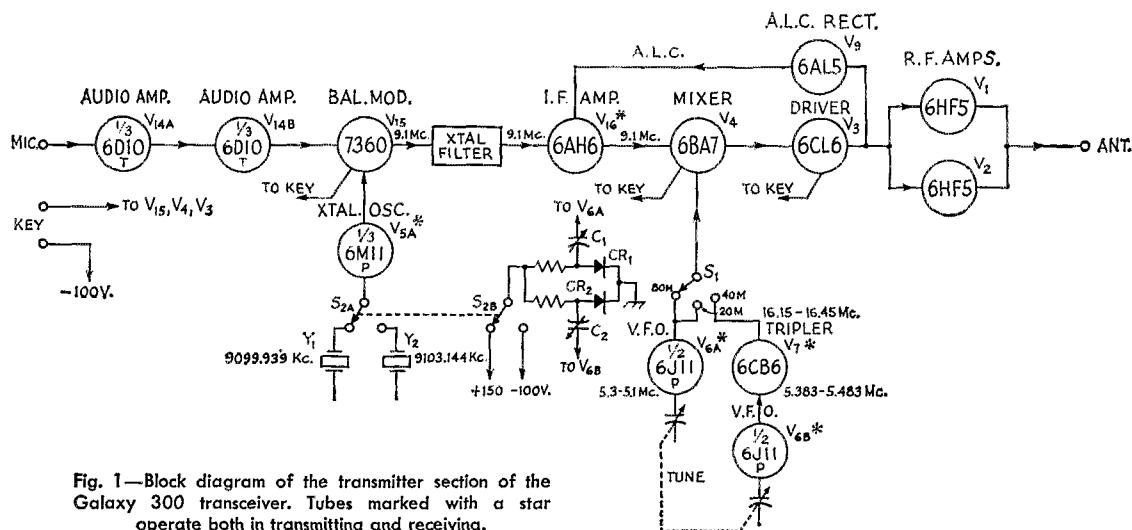

Fig. 1—Block diagram of the transmitter section of the Galaxy 300 transceiver. Tubes marked with a star operate both in transmitting and receiving.
For simplicity of explanation, the block diagrams of the transceiver shown in Figs. 1 and 2 have been broken down to show the transmitter and receiver sections as separate units. A star alongside a tube in the diagrams indicates that the tube is used for both transmitting and receiving.
Fig. 1 shows the line-up of major components when transmitting. Audio from any high-impedance microphone (with a push-to-talk switch and a PI-68 3-circuit small-barrel plug) is amplified in two triode stages of a 6D10 compactron, V₁₄, and fed to a 7360 balanced modulator. Also arriving at the balanced modulator is
9.1-Mc. energy from a crystal-controlled oscillator, V_{5A}, a 6MI1 compactron. The oscillator frequency is controlled by either of two crystals, Y₁, Y₂, which are selected by a panel sideband switch, S_{2A} in Fig. 1.